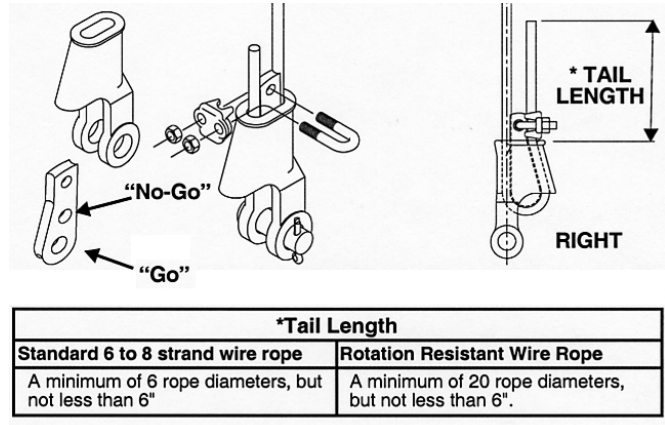

Figure 2-4 Terminator Wedge Socket Assembly
- Use only with standard 6 to 8 strand wire rope of designated size. For intermediate size rope, use next larger size socket. For example: When using 9/16" diameter wire rope use a 5/8" size Wedge Socket Assembly. Welding of the tail on standard wire rope is not recommended. The tail length of the dead end should be a minimum of 6 rope diameters but not less than 6" (See Figure 2-4).
- To use with Rotation Resistant wire rope (special wire rope constructions with 8 or more outer strands) ensure that the dead end is welded, brazed or seized before inserting the wire rope into the wedge socket to prevent core slippage or loss of rope lay. The tail length of the dead end should be a minimum of 20 rope diameters but not less than 6" (See Figure 2-4).
- Align live end of rope, with center line of pin (See Figure 2-4).
- Secure dead end section of rope. (See Figure 2-4).